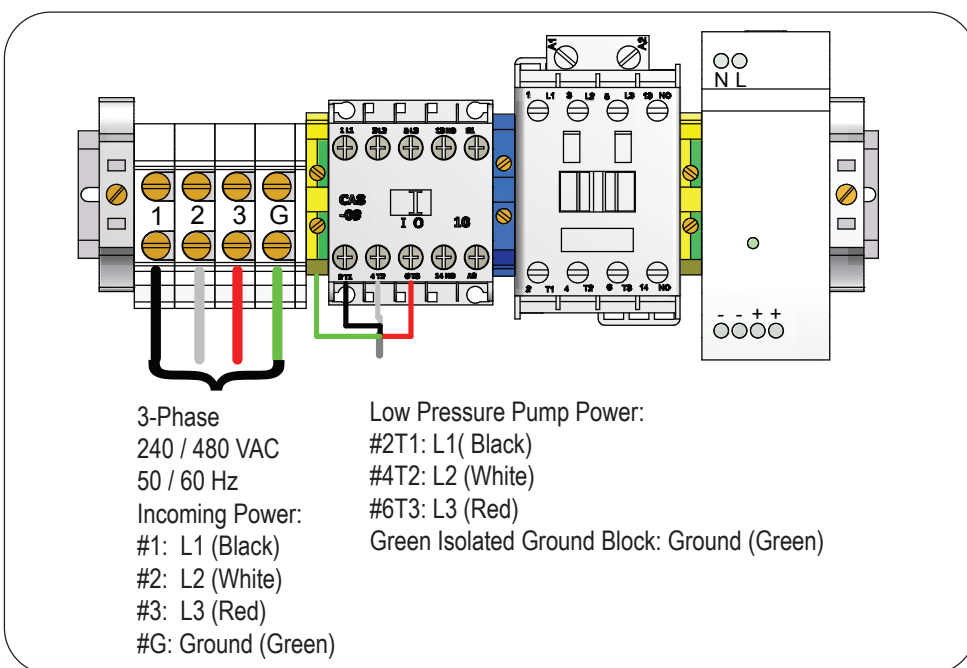
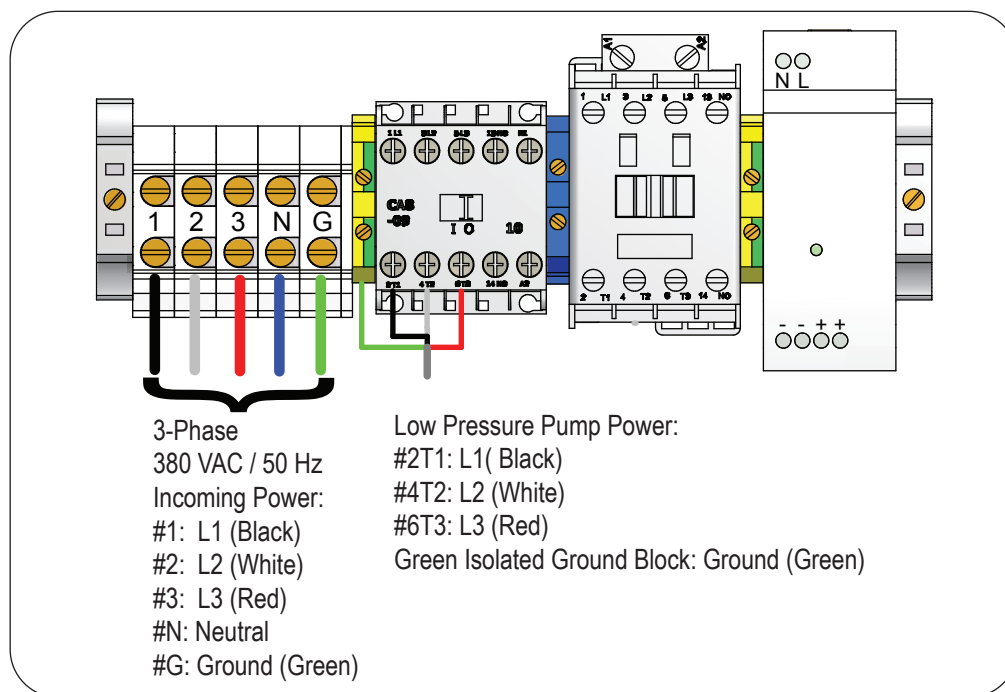

Figure 20: Wiring at the Connector Block (Three Phase 60 Hz)
Figure 21: Wiring at the Connector Block (Three Phase 50 Hz)
For three phase power, (50 or 60 Hz), attach the wires to terminals #2T1, #4T2, and #6T3 of the LPP contactor, and #G to the green isolated ground block. See *Figure 20* or *Figure 21* on page 53.
- #1, #2, #3, and #G for three phase 60 Hz power (Figure 20 on page 52)
- #1, #2, #3, #N, #G for three phase 50 Hz power (Figure 21 on page 53)